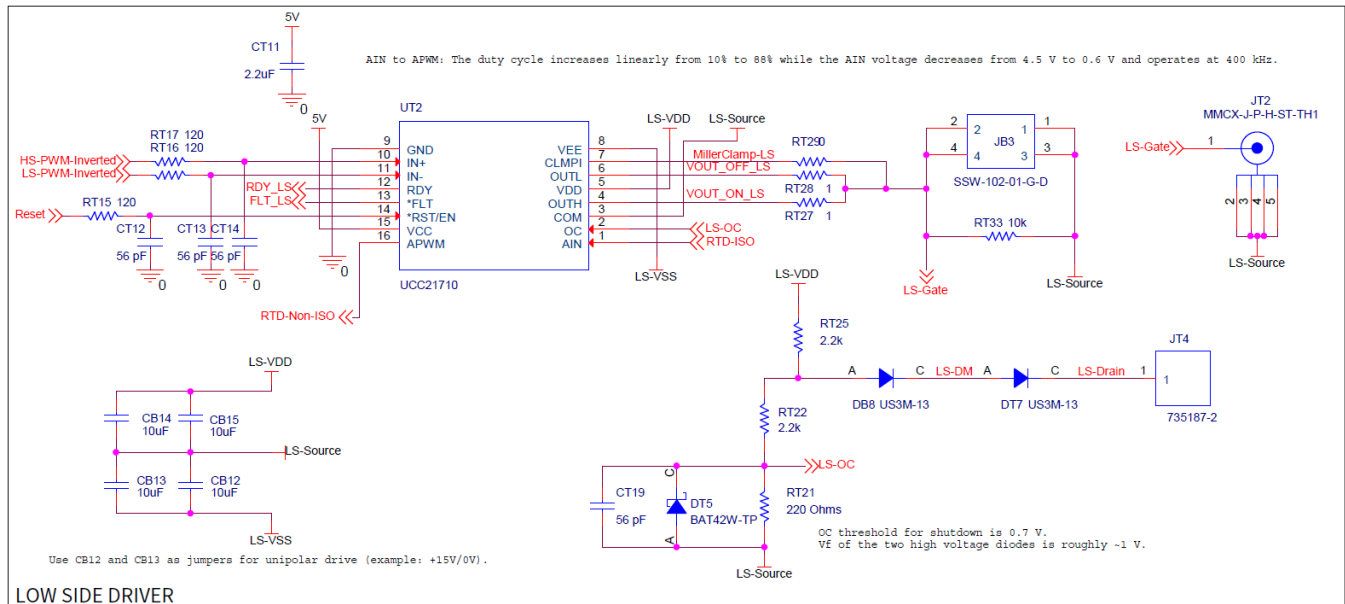
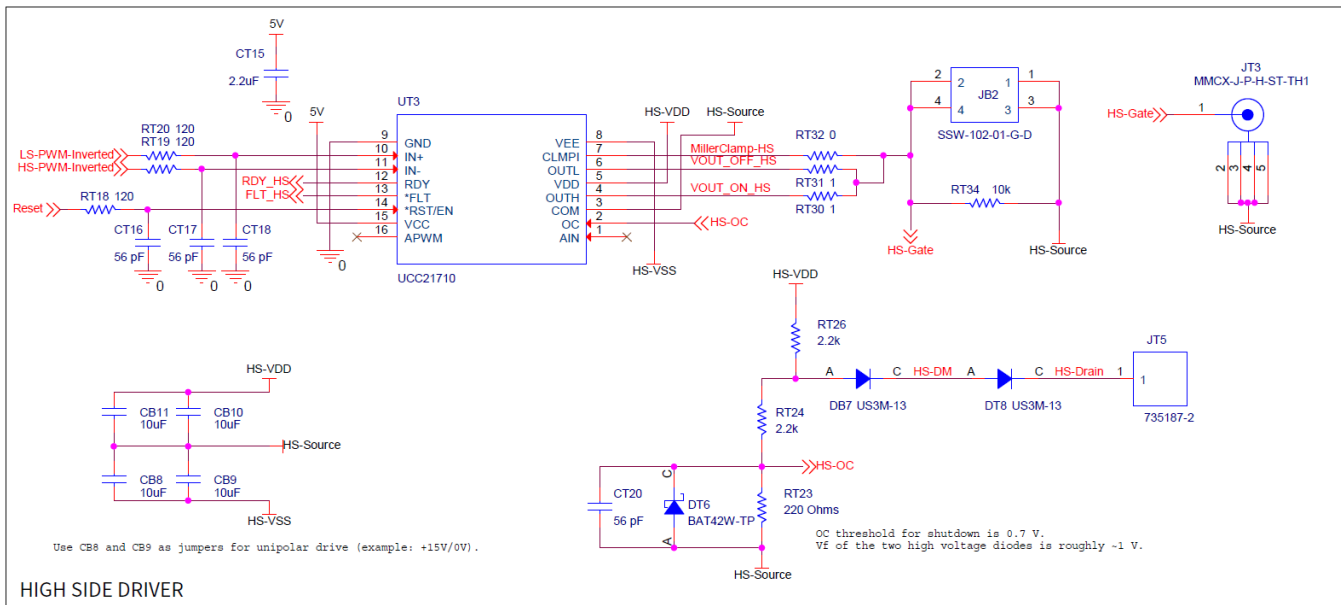
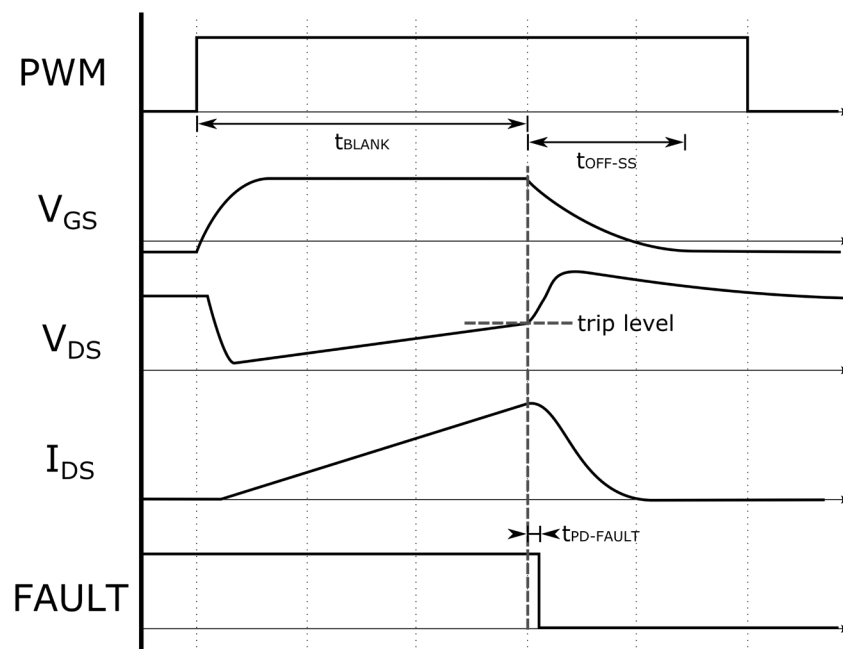
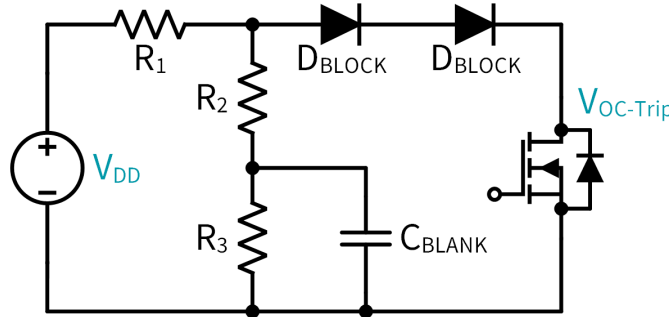

Figure 22: Low-side gate driver circuit with overcurrent protection
Figure 23: High-side gate driver circuit with overcurrent protection
Figure 24: Overcurrent fault timing diagram
Figure 25: Notional overcurrent fault circuit
An overcurrent (OC) fault is an indication of an overcurrent event in the SiC power module. The overcurrent protection circuit, shown in Figure 22 for the low-side and in Figure 23 for the high-side, measures the drain-to-source voltage (V_{DS}), and the fault will indicate if this voltage has risen above an acceptable current level. When a fault has occurred, the corresponding gate driver channel will be disabled, and the gate will be pulled down through a soft turnoff circuit. The equivalent drain-to-source voltage for a particular overcurrent limit can be configured through onboard resistors. The overcurrent fault is latched upon detection and must be cleared by the user/controller with a low pulse of at least 1000 ns on the \overline{RESET}/EN signal of the gate driver. The various timing and voltage trip levels presented in Table 3 and Section 4.4.4 are defined notionally in the timing diagram shown in Figure 24.
The OC fault detection circuit – shown in Figure 22 and Figure 23 for the low-side and high-side positions, respectively – monitors the on-state V_{DS} across each switch position and triggers a fault condition if the voltage rises above the predefined set level for a predefined amount of time (blanking time) while the device is on. The circuit is simplified into the notional diagram shown in Figure 25. Referring to this figure, the corresponding overcurrent trip voltage, $V_{OC-Trip}$ and blanking time, $t_{BLK,EXT}$, can be calculated using the following equations: